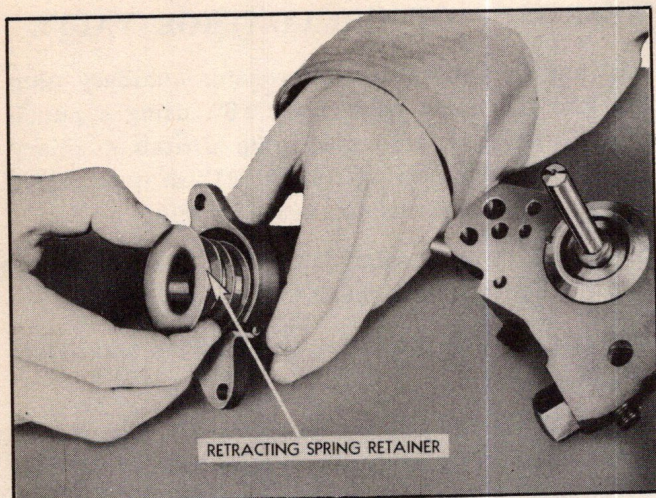

Fig. 282—Installing Retracting Spring Retainer
8. Place retracting spring retainer over piston stem, on booster spring (Fig. 282). End with smallest diameter goes down into cylinder.